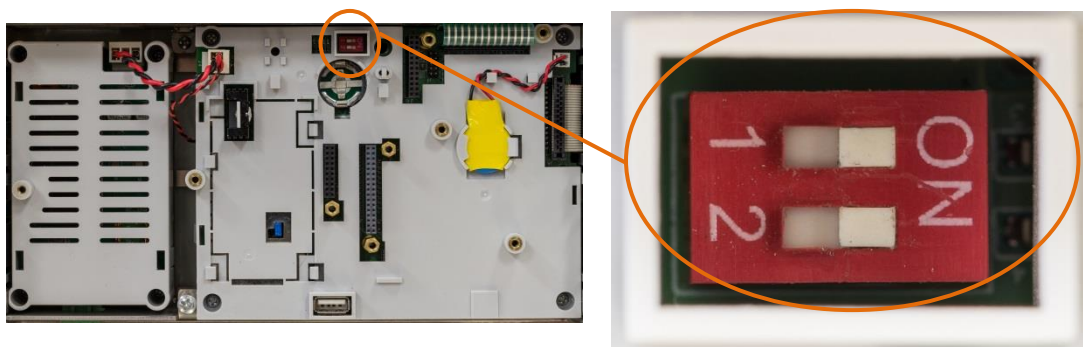

Figure 5-32: Metrology Switch Location
2. Place both switches SW1-1 and SW1-2 in the ON position, as shown in Figure 5-32.